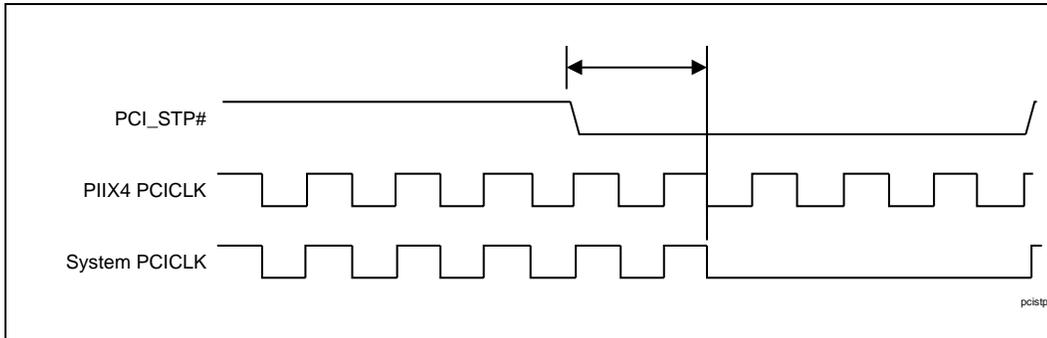
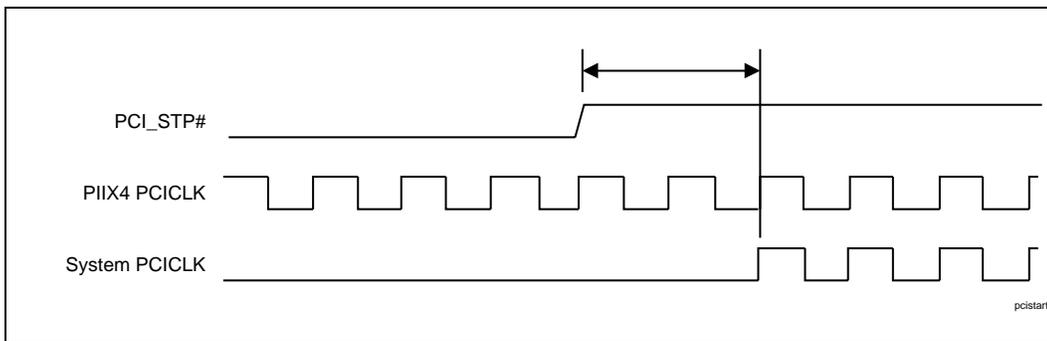

Figure 18. PCI Clock Stop Timing
Figure 19. PCI Clock Start Timing
Figure 18 and Figure 19 show the timing relationship for the control of system PCICLK. The system PCICLK timings must be followed exactly for proper operation of PC/PCI DMA or Serial IRQ logic. If PC/PCI DMA and Serial IRQs are not used in the system, the system PCICLK stop timings must meet the system developer's requirements.
2. See Figure 18 and Figure 19 for exact PCICLK requirements for use with PC/PCI DMA and Serial IRQs.
5. See Figure 18 and Figure 19 for exact PCICLK requirements for use with PC/PCI DMA and Serial IRQs.